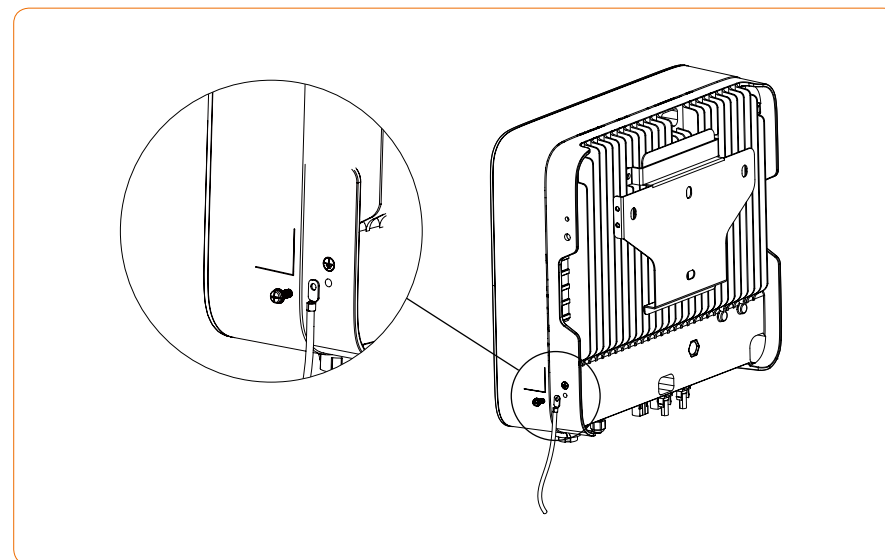

Figure 4-9 Grounding terminal connection
- ① The external grounding terminal is located in the lower right side of the inverter.
- ② Fix the grounding terminal to the PE wire with a proper tool and lock the grounding terminal to the grounding hole in the lower right side of the inverter, as shown in Figure 4-9.
- ③ The cross-sectional area of the external grounding cable is 4mm2.